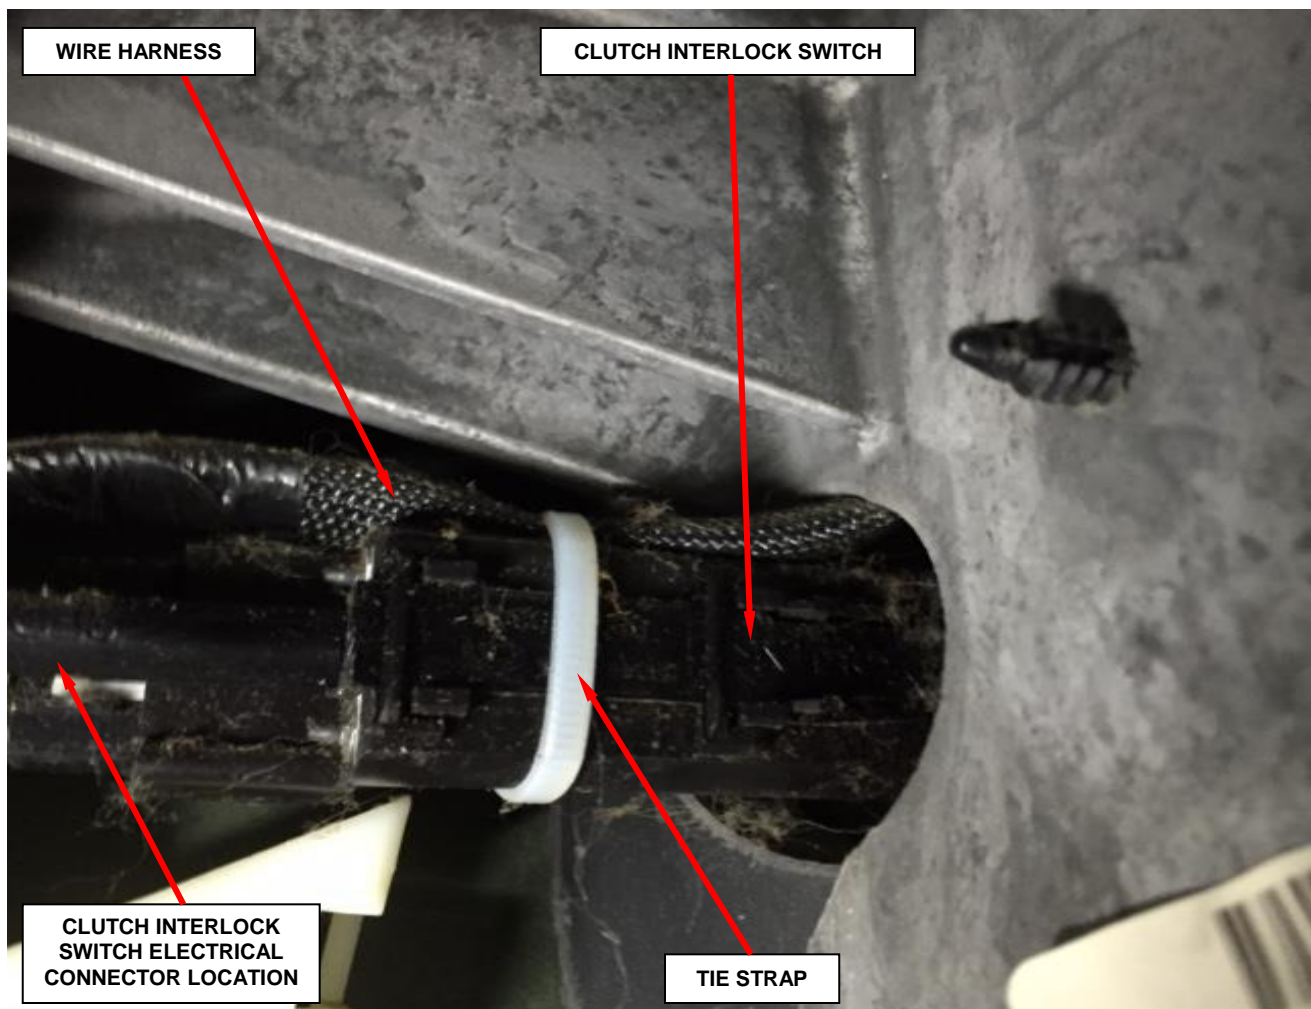

Figure 6 – Clutch interlock Switch
5. Cut the tie strap that secures the wire harness to the clutch interlock switch and discard the tie strap (Figure 6)
12. Install the new tie strap securing the wire harness to the clutch interlock switch (Figure 6).